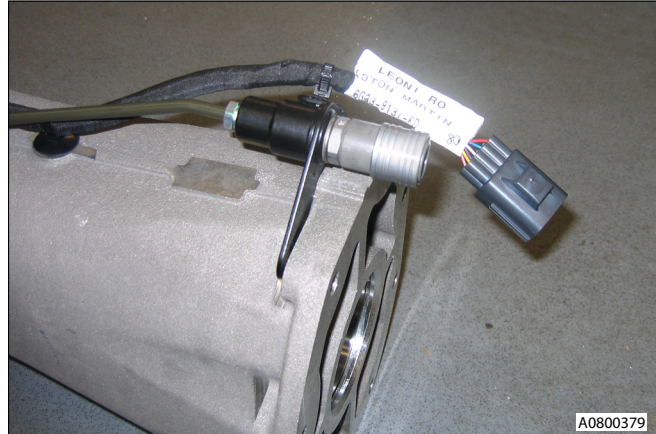

Fig. 3
8. Release clip securing transmission harness to clutch pipe bracket and remove harness (see Fig. 3).